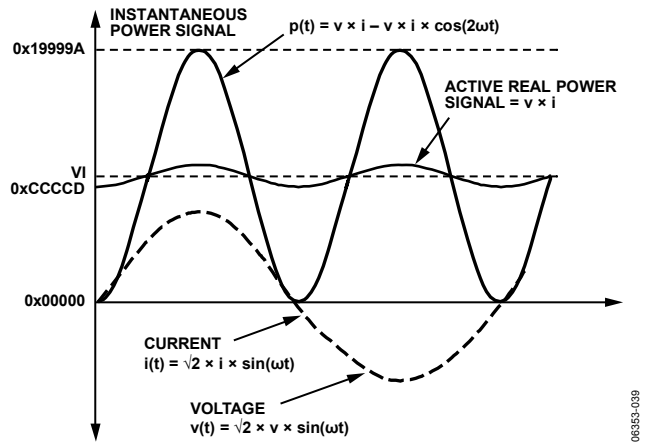

Figure 63. Active Power Calculation
Note that the active power is equal to the dc component of the instantaneous power signal $p(t)$ in Equation 11, that is, VI . This is the relationship used to calculate active power in the ADE7566/ADE7569/ADE7166/ADE7169. The instantaneous power signal $p(t)$ is generated by multiplying the current and voltage signals. The dc component of the instantaneous power signal is then extracted by LPF2 (low-pass filter) to obtain the active power information. This process is illustrated in Figure 63.
The ADE7566/ADE7569/ADE7166/ADE7169 also incorporate an active power offset register (WATTOS[15:0]). It is a signed, twos complement, 16-bit register that can be used to remove offsets in the active power calculation (see Figure 63). An offset can exist in the power calculation due to crosstalk between channels on the PCB or in the IC itself. The offset calibration allows the contents of the active power register to be maintained at 0 when no power is being consumed.
As mentioned in the Active Energy Calculation section, the discrete time sample period (T) for the accumulation register is 1.22 μs (5/CLKIN). With full-scale sinusoidal signals on the analog inputs and the WGAIN register set to 0x000, the average word value from each LPF2 is 0xCCCCD (see Figure 63). The maximum positive value that can be stored in the internal 49-bit register is 2⁴⁸ (or 0xFFFF,FFFF,FFFF) before it overflows. The integration time under these conditions when WDIV = 0 is calculated in the following equation: